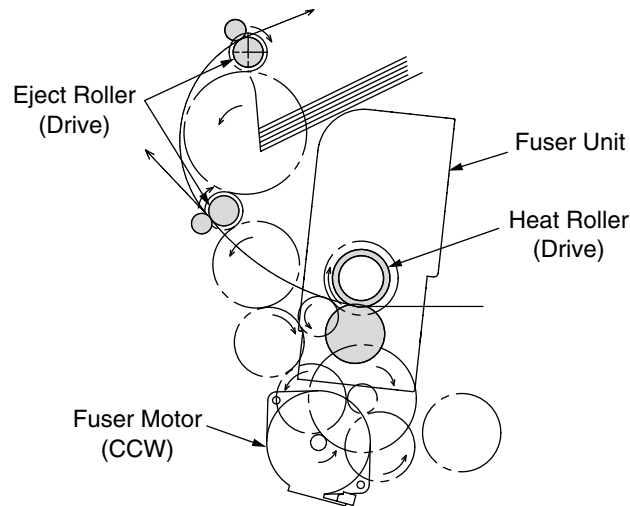

Figure 2-8
1. As indicated in Figure 2-8, a single pulse motor drives the fuser unit and expeller roller. The heat drum turns when the fuser motor turns (CCW). This drum transfers the toner image on the paper by high temperature and pressure.